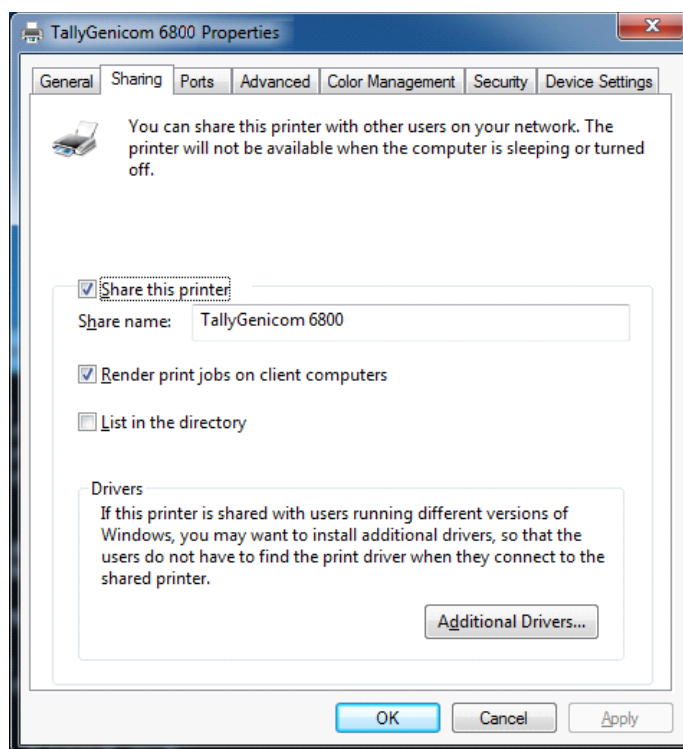

Figure 31 Sharing Properties
- For USB connections, the printer must have a “Share name” established. The “Share name” will be required when executing the **FILENAME.exe** command. This should be accomplished during installation, but can be verified at any time. Select the driver, right-click the mouse button and select “Printer Properties”. Click the “Sharing” tab, and if necessary, checkmark (enable) the “Share this printer” option, and enter the “Share name” (Figure 31).